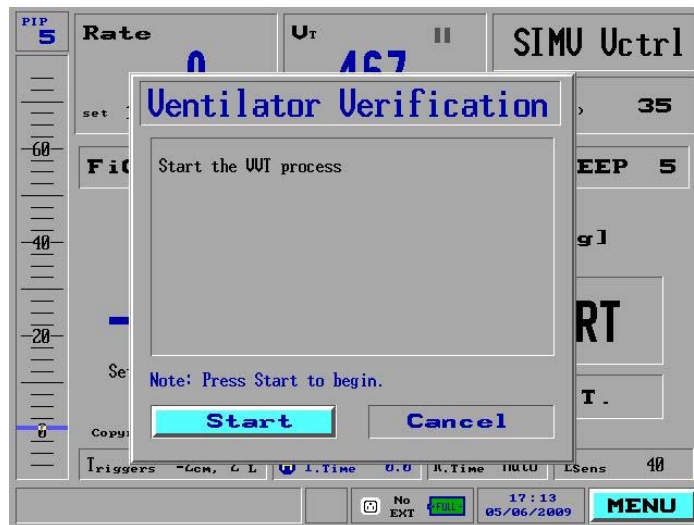

Figure 158: The Ventilator Verification Pop-Up Window
8. The **Ventilator Verification** pop-up window appears (Figure 158).